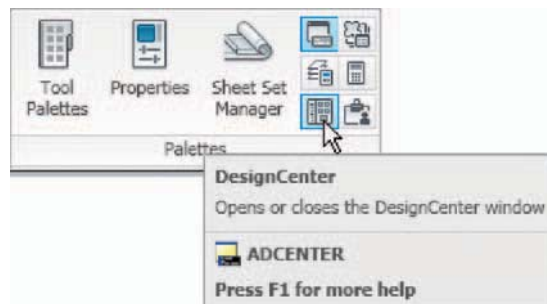
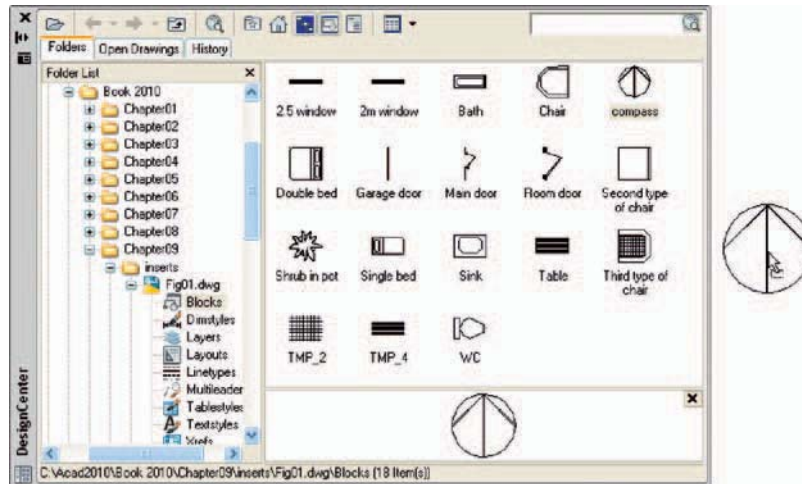

Fig. 9.9 Selecting **Design Center** from the **View/Palettes** panel
Fig. 9.10 The DesignCenter with the compass block *dragged* on screen
2. Left-click **Design Center** in the **View/Palettes** panel (Fig. 9.9) or press the **Ctrl + 2** keys. The **DesignCenter** palette appears on screen (Fig. 9.10).